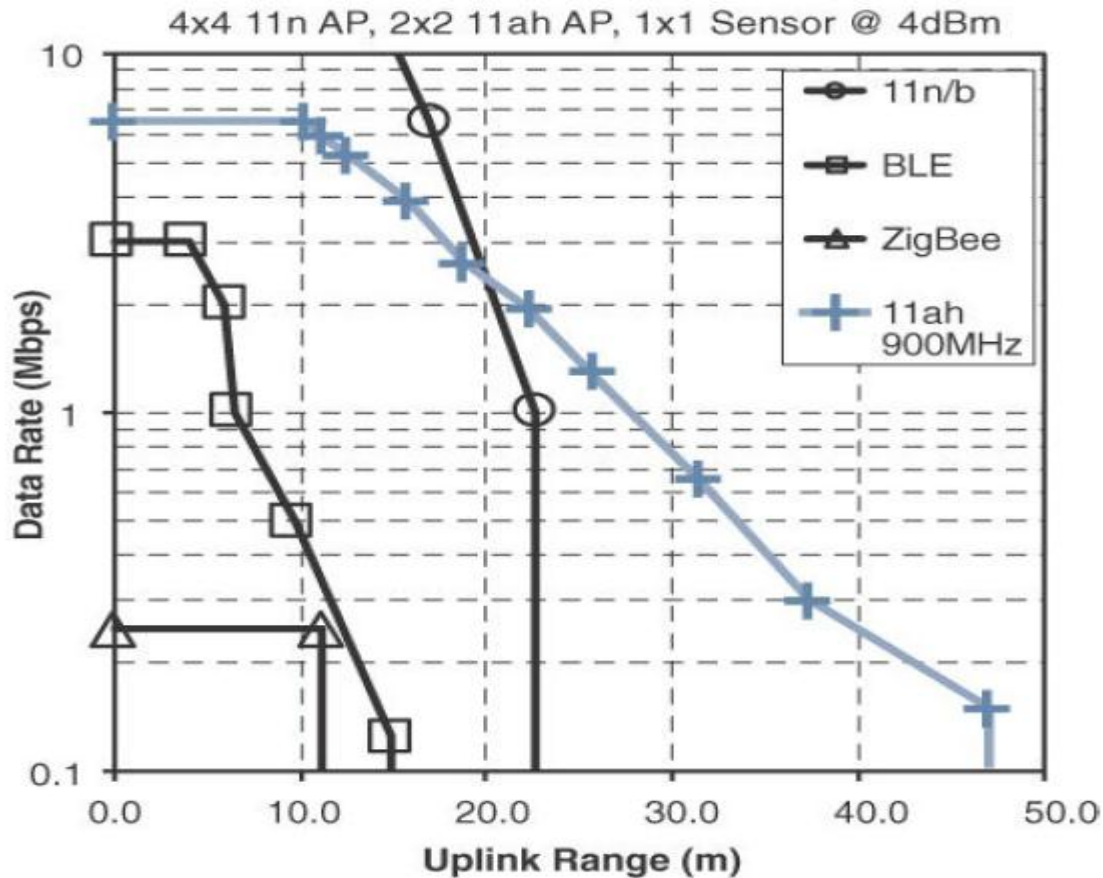

Figure 2.10 : Range Versus Throughput for Four WHAN to WLAN Technologies
- Figure 2.10 demonstrates four technologies representing WHAN to WLAN ranges and compares the throughput and range that can be achieved in each case.